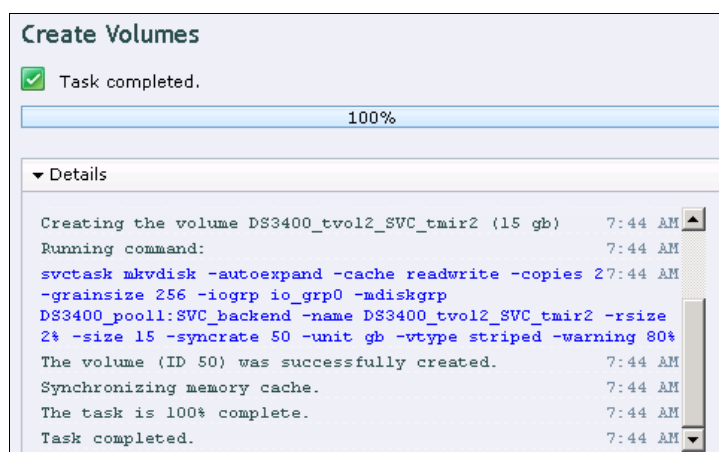

Figure 5-17 Confirmation window
- The summary shows you the capacity information and the allocated space. You can click **Advanced** and customize the thin-provision settings or the mirror synchronization rate. After you create and map to host, the confirmation window opens (Figure 5-17).